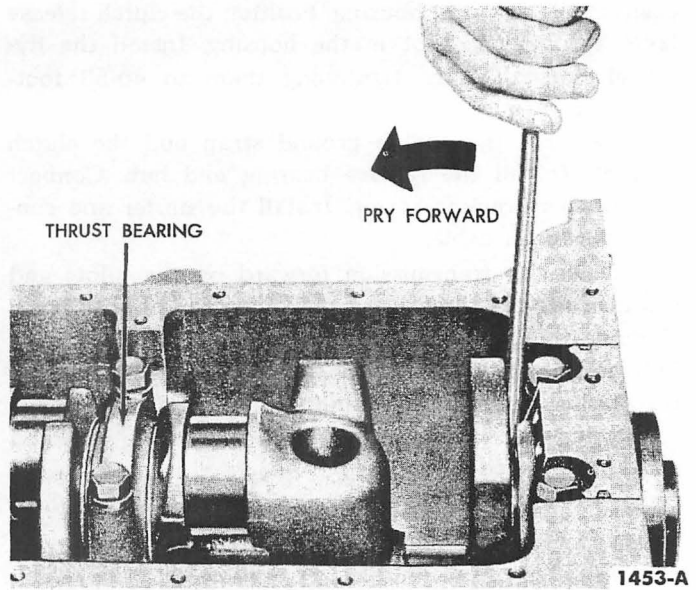
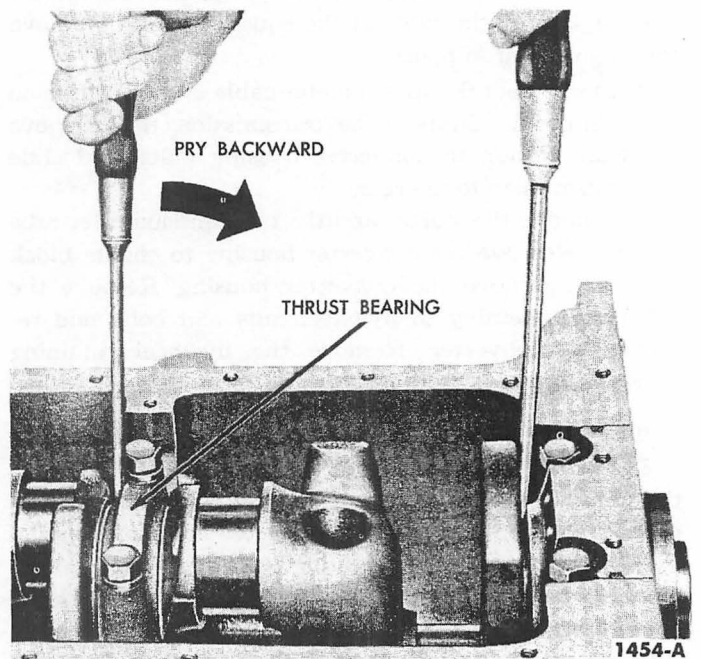
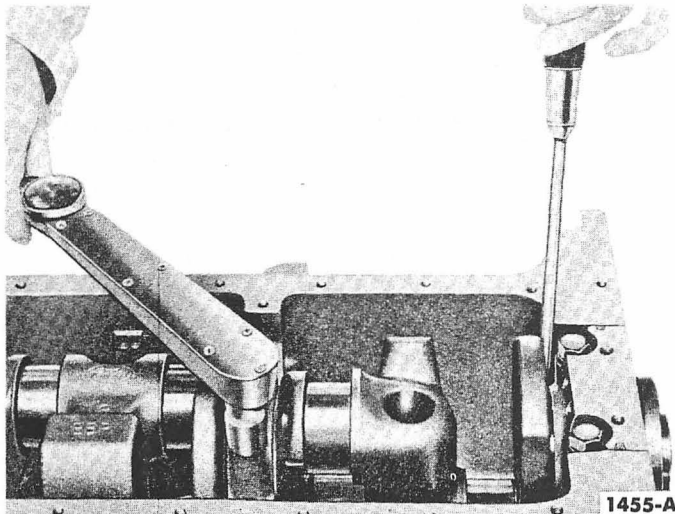

Fig. 36—Pry Crankshaft Forward
Fig. 37—Pry Cap Backward
Fig. 38—Tighten Cap
4. Install the thrust bearing cap with the bolts finger tight, then pry the crankshaft forward against the thrust surface of the upper half of the bearing (Fig. 36). Hold the crankshaft forward and pry the thrust bearing cap to the rear (Fig. 37). This will align the thrust surfaces of both halves of the bearing. Retain the forward pressure on the crankshaft and tighten the cap bolts to 95-105 foot-pounds torque (Fig. 38).